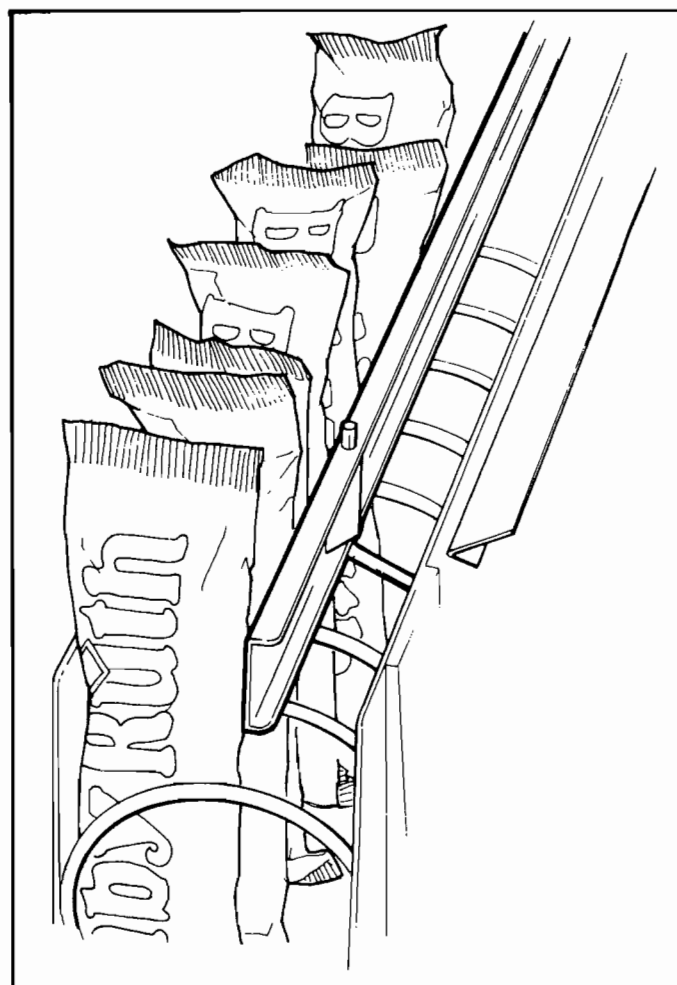

Figure 6. 8 SELECTION SHELF PRODUCT SPACER POSITIONED TO HOLD CANDY UPRIGHT.
7. **PRODUCT SPACERS—8 SELECTION SHELF:** The 8-selection shelves are equipped with a product spacer (see Figure 6) that can be pivoted from the right side of each product space. These spacers should be pivoted out to hold the product upright, but not tight against the product. Leave about 1/8" clearance between the spacer and the product.